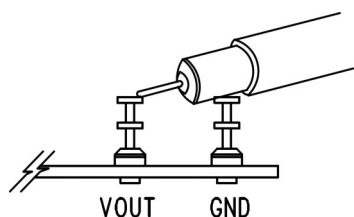

Figure 2. Measuring Input or Output Voltage Ripple
2. When measuring the input or output voltage ripple, care must be taken to avoid a long ground lead on the oscilloscope probe. Measure the input or output voltage ripple by touching the probe tip directly across the V_{IN} or V_{OUT} and GND terminals. See Figure 2 for proper scope probe technique.
ISET Components: C3, R3 and R4 are used to provide a number of features and circuit enhancements such as, output current limit, input current limit, optimizing output ripple voltage reduction and efficiency improvement. R4 sets maximum output current, see Figure 2 in LTC3630A data sheet, leave open for maximum load current. R3 and R4 can be used to set input current limit. C3 is used to reduce output voltage ripple and optimize efficiency. See data sheet for details.